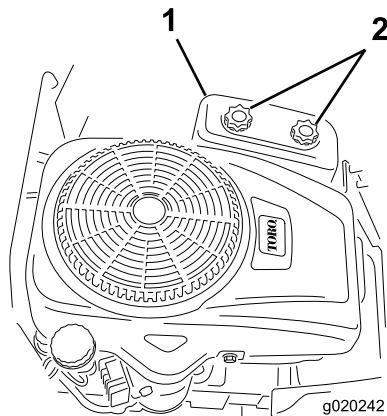

Figure 26
4. Remove the air-cleaner cover by unscrewing the 2 knobs (Figure 26).
3. Install the air-cleaner cover, and tighten the 2 knobs (Figure 26).